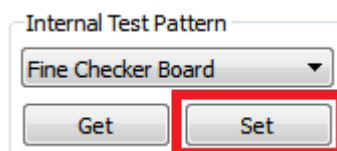

Figure 2-52. DLP LightCrafter GUI Internal Test Pattern Settings
4. Click the Set button to display the selected pattern. See Figure 2-52.